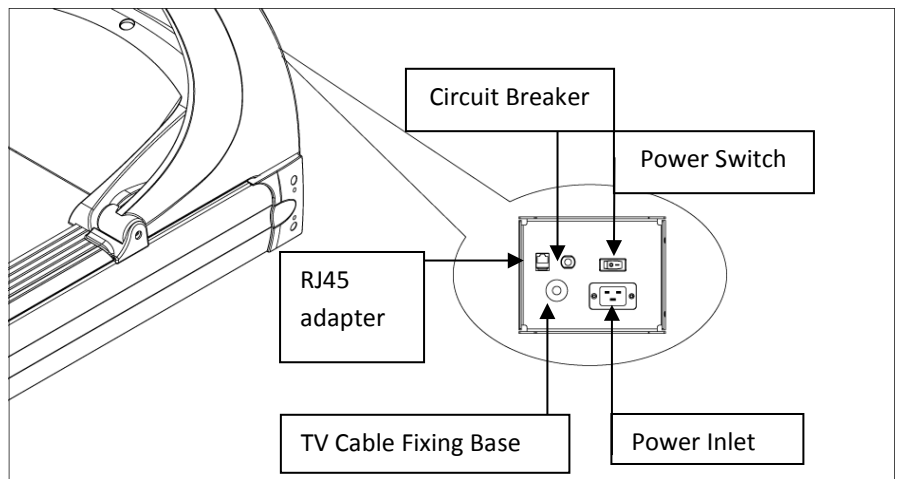

Fig. 14-1: CS600/650 Treadmill Front Electrical Panel (120V shown)
a) Insert Power Cord into Power Inlet receptacle of front electrical panel of treadmill. See Fig. 14-1 for location.